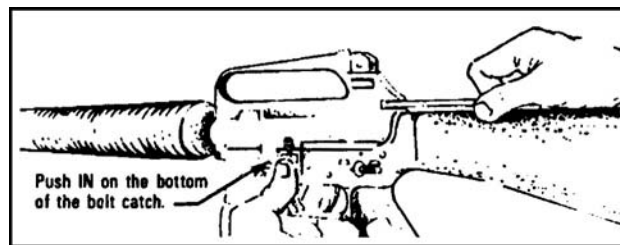

Figure 6. Bolt locked to the rear.
- j. Push in on the bottom portion of the bolt catch, locking the bolt in the rear position (Figure 6).